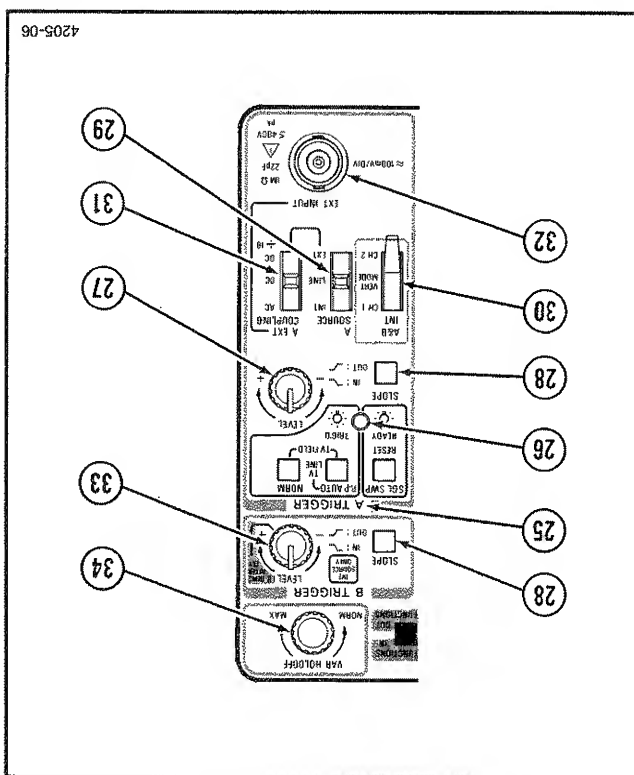

Fig. 2-6. Trigger controls, connector, and indicator.
Refer to Figure 2-6 for location of item 25 through 34.